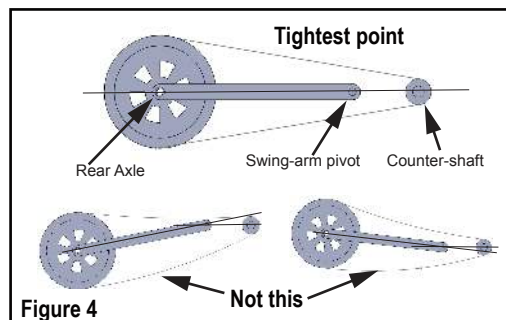

Figure 4
- With the belt/chain at the previously mentioned tightest point, make sure the rear axle, swing-arm pivot, and counter-shaft sprocket/cog are all aligned (see Figure 4). You may be able to do this by having someone sit on the bike to compress the shocks, or it may require temporarily removing the shocks. This is now the tightest the position the drive belt/chain will ever see. It's in this position you want to measure the "slack" or "play" on the lower side of the belt/chain about in the middle between the front and rear sprockets/cogs, and if need be adjust your chain/belt tension.